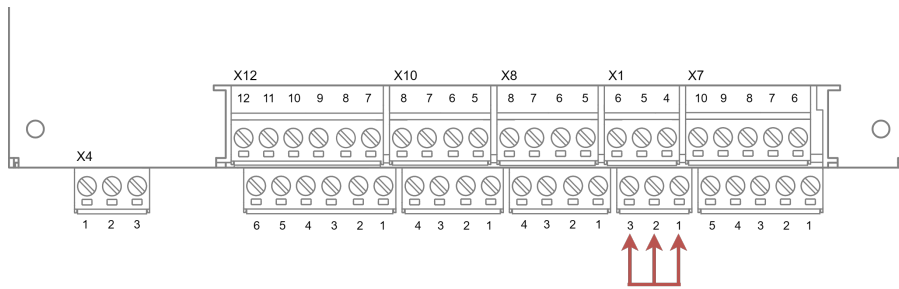

Figure 5: Wiring of the update plug
- Wire the update plug as shown in Figure 5.